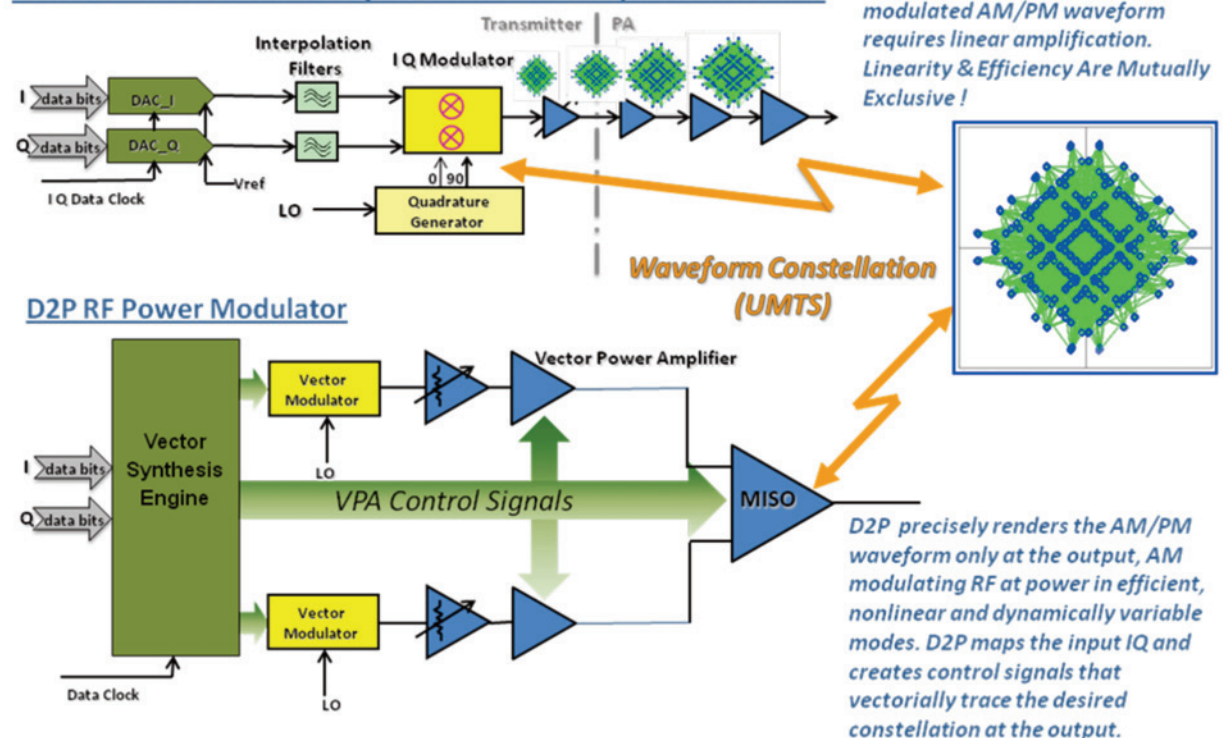

Figure 2: Conventional Transmitter IQ Modulator and Amplification Chain (a) vs. the d2p RF Power Modulator (b)
In Figure 2, the conventional transmit IQ modulation and amplification chain (2a) is contrasted with the agile-radio transmit process, referred to as the d2p™ RF Power Modulator (2b). In the conventional transmit process, accurate preservation of the directly modulated AM/PM waveform requires linear amplification to preserve the integrity of the modulation; excellent linearity and high efficiency are inversely correlated. The d2p process combines and re-organizes the functions of traditional transmitters and power amplifiers to present a single unified multi-mode non-linear architecture that handles numerous access technologies. In one step, an agile radio converts a signal from baseband data to modulated RF at the desired output power with no intermediate frequency (IF) stages and no interstage support of the complex RF waveform.